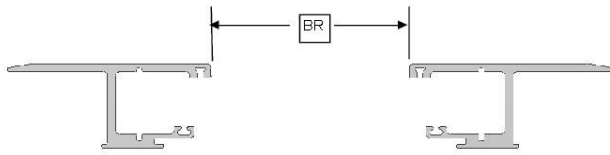

FIG. 4A
Finally, check for proper spacing by measuring between the rails at the canister and the tailgate end of the rails (Fig 4A). The measurement should be equal or less than those in Fig 4B. The Rail Brackets and Shims have been pre-installed to achieve the proper Between the Rail dimensions (BR) when placed on an average factory truck bed. However, not all truck beds are average dimensionally and some have optional plastic caps or over the rail spray-in bedliners.
Run the adjusting bolt inward toward the bed wall, putting some pressure on the foot. Continue running the bolt inward using the knob until the rail is visually level. The adjusting bolt can be removed and the base flipped 180 degrees to adjust for varying clearance with the bed wall (FIG. 6D). Verify the BTR dimension after the rails are leveled (STEP 4, FIG 4A & 4B).